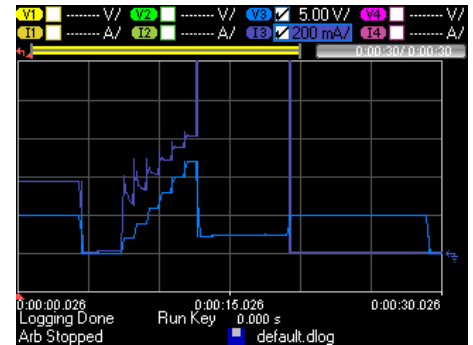

Figure 17 – Stepped Voltage Ramp into a Cap in Data Logger
6. Figure 17 shows what the data log should look like. Even though you hit the Emergency Stop key, the data logger continues to capture valuable data.